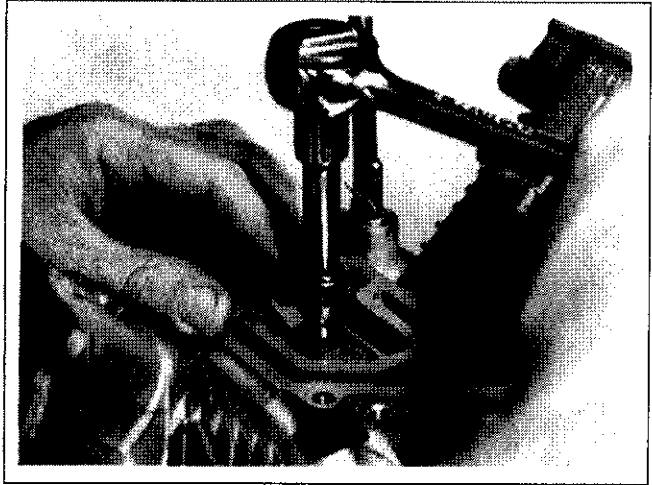

Figure 9-36. Removing Breather Reed.
7. Remove the hex. flange screw, breather reed retainer and breather reed from housing. See Figure 9-36.